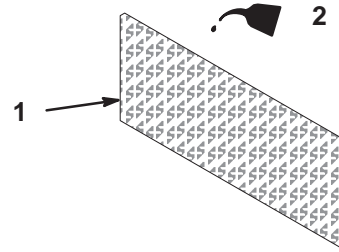

Figure 24
3. Put one or two ounces of oil on the element (Fig. 24). Squeeze the element to distribute the oil.